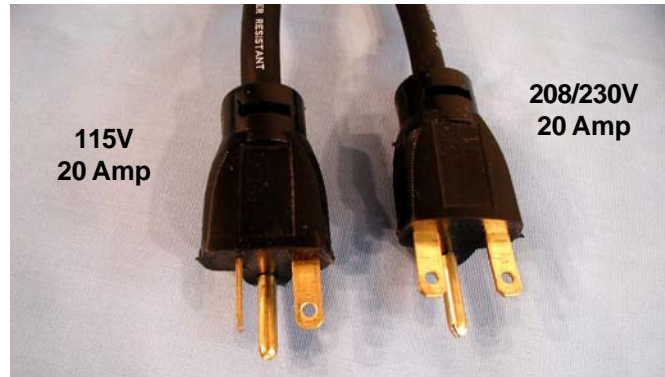

Figure 2-3 Electrical Plug
- E. Connect the power cord to the proper power supply. The plug is designed for 208 or 230 volt/20 amp duty. Check the nameplate on your machine for proper supply. The unit must be connected to a properly grounded receptacle. The electrical cord furnished as part of the machine has a three prong grounding type plug (Fig. 2-3). The use of an extension cord is not recommended, if necessary use one with a size 12 gauge or heavier with ground wire. Do not use an adapter to get around grounding requirement.